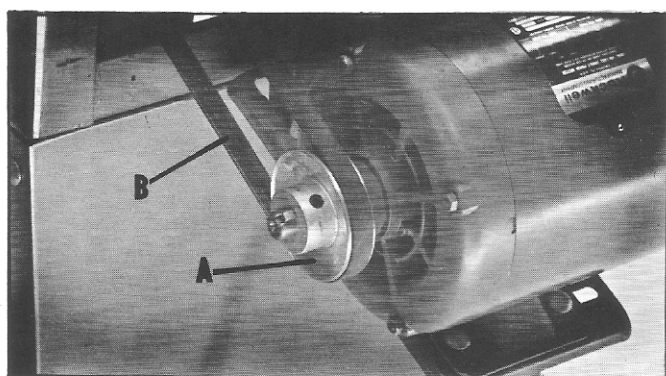

Fig. 7
1. Assemble motor pulley (A) Fig. 7, to the motor shaft with hub of pulley out. Tighten set screw in motor pulley against key in motor shaft, as shown in Fig. 7.
2. Assemble motor to motor mounting plate, as shown in Fig. 7, using the four hex head screws, eight flat washers, eight shakeproof lockwashers and four nuts supplied. Do not tighten at this time.